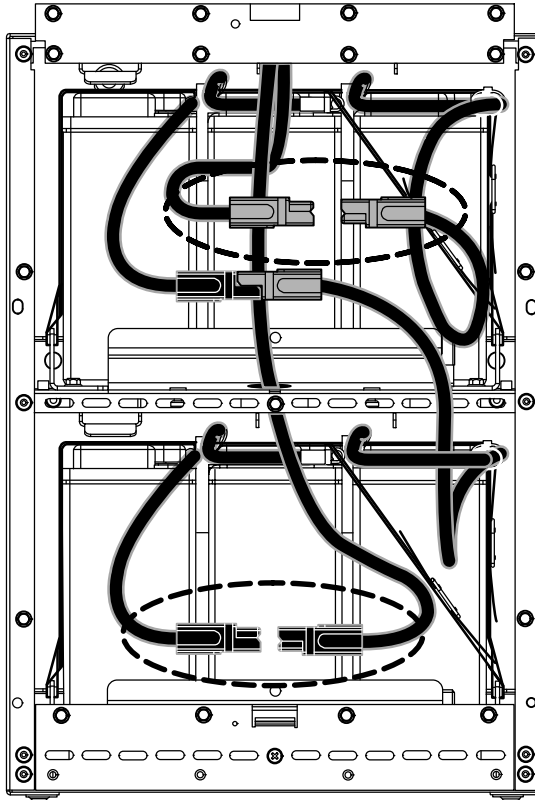

Figure 44. Disconnecting the Battery Circuit Breaker Wires
7. Disconnect the wires from the electronics module to the battery terminals, as described below (see Figure 44):